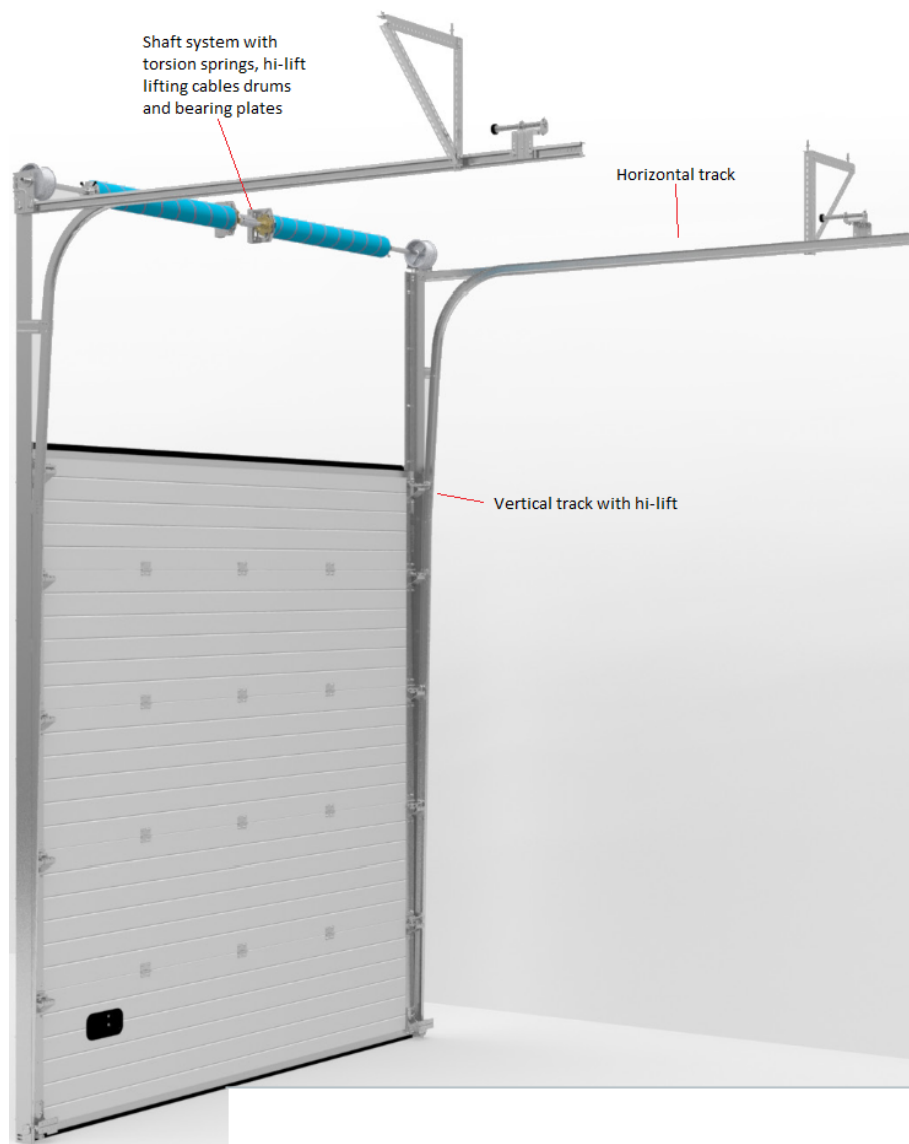

Figure 6: High lift sectional overhead door
Sixth type of door is high lift (HL) it is a combination of NL and VL. The door lifts by a certain amount vertically before going ninety degrees from the daylight opening surface or in other words before it goes into the horizontal track, see figure 6. This type is used when the ceiling height is not enough for VL. And it is undesirable to have the horizontal tracks mid air in the building which is what happens if NL is used with large head room.